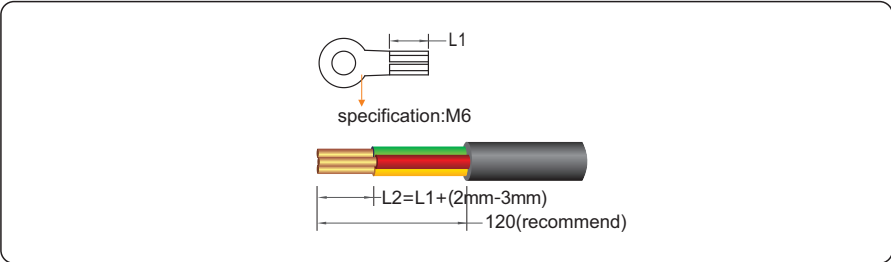

Figure 5.4 Stripped length (unit: mm)
**Step 1** Remove an appropriate length of the jacket and insulation layer from the AC output cable, as shown in Figure 5.4.